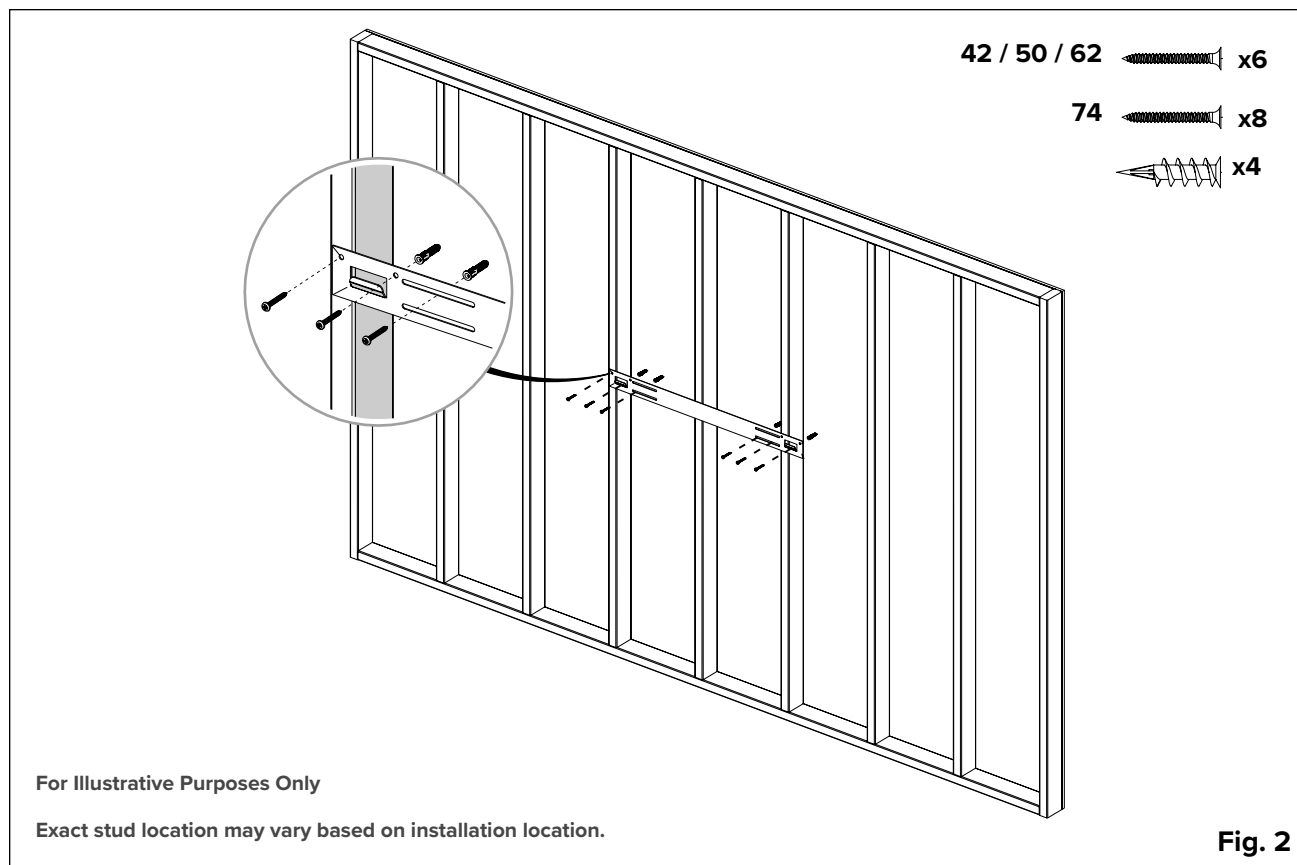

Fig. 2
It is necessary to install the bracket into a stud where accessible. Use a stud finder to locate the studs for supporting the fireplace. Screws and anchors are provided for the installation. Use the drywall anchors where studs are not accessible (**Fig 2**).
9. Check the appliance for stability, ensuring that the bracket will not pull free from the wall (**Fig. 2**).